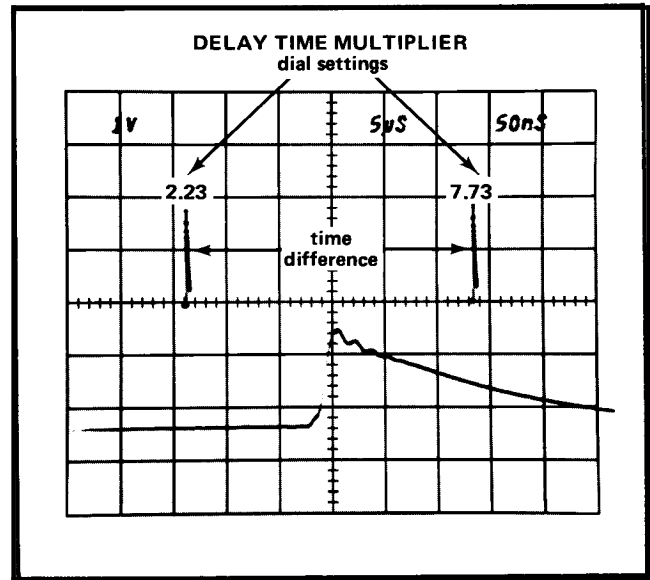

Fig. 2-12. Measuring time difference using delayed sweep.
2. Set the VOLTS/DIV selector to produce a display about three divisions in amplitude (see Fig. 2-12).
5. Set the 7B70 (B) TIME/DIV to a setting 1/100 of the A TIME/DIV sweep rate. This produces an intensified portion about 0.1 division in length.
- Example:** Assume the first dial setting is 2.23 and the second dial setting is 7.73 with the TIME/DIV set to 5 μ s (see Fig. 2-12).